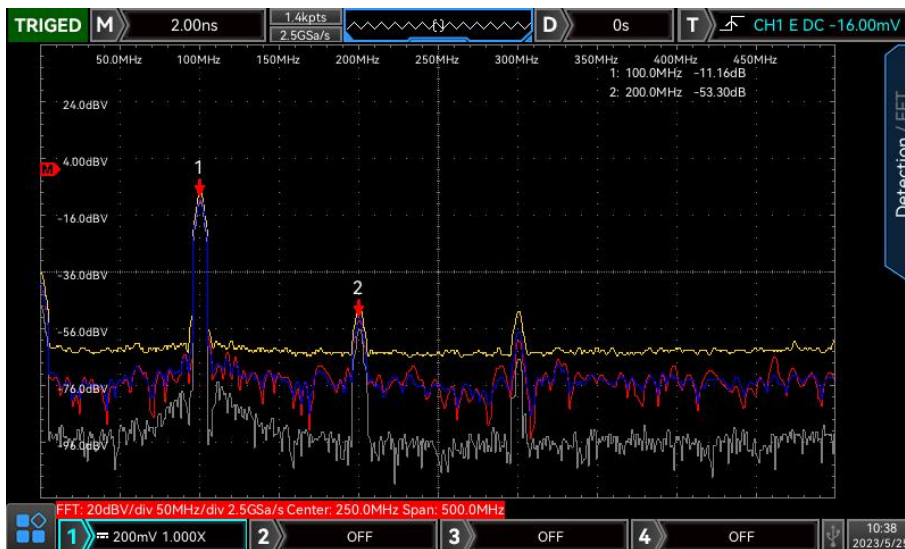

Figure 15-2
c. Independent screen: Only display FFT wave for observing frequency spectrogram more clearly, as shown in Figure 15-2.